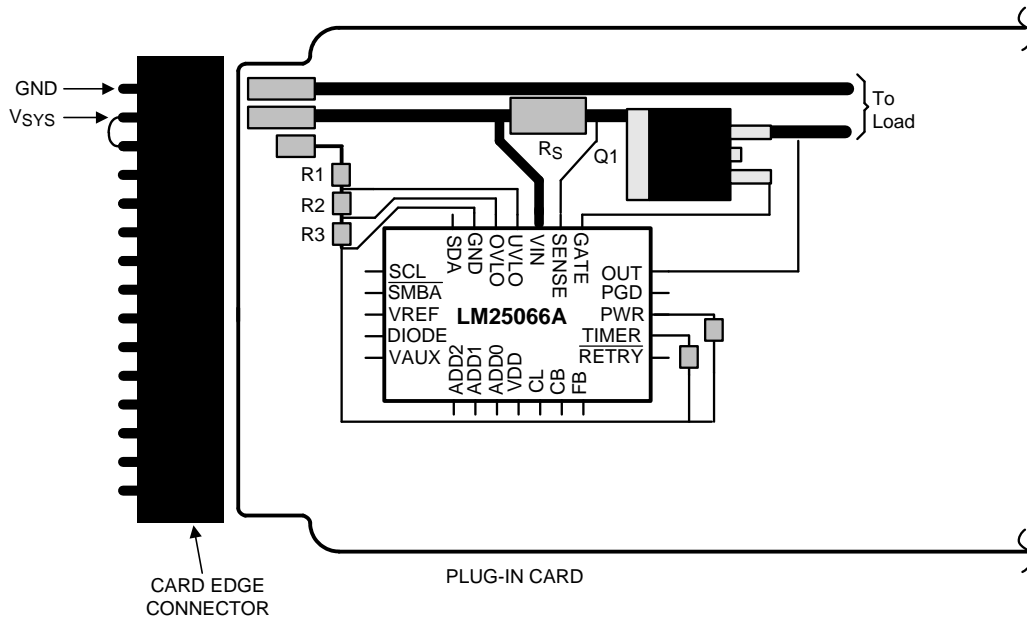

Figure 56. Recommended Board Connector Design
- The board's edge connector can be designed such that the LM25066A detects via the UVLO/EN pin that the board is being removed and responds by turning off the load before the supply voltage is disconnected. For example, in Figure 56, the voltage at the UVLO/EN pin goes to ground before VSYS is removed from the LM25066A because of the shorter edge connector pin. When the board is inserted into the edge connector, the system voltage is applied to the LM25066A's VIN pin before the UVLO voltage is taken high, thereby allowing the LM25066A to turn on the output in a controlled fashion.